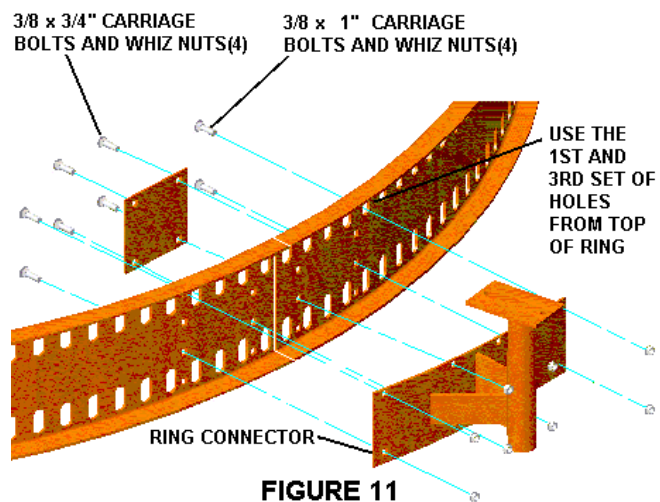

FIGURE 11
Lay the (3) drive ring segments in a circle and join the ends together with a ring connector weldment on the outside and a stiffener plate on the inside. There are (4) rows of bolt holes punched in the ring. Assemble using the first and third row of the holes from the top edge of the rings. See Figure 11. Use (4) 3/8" x 1" carriage bolts and whiz nuts to bolt through each stiffener plate, ring and ring connector. Insert carriage bolts from inside the rings.